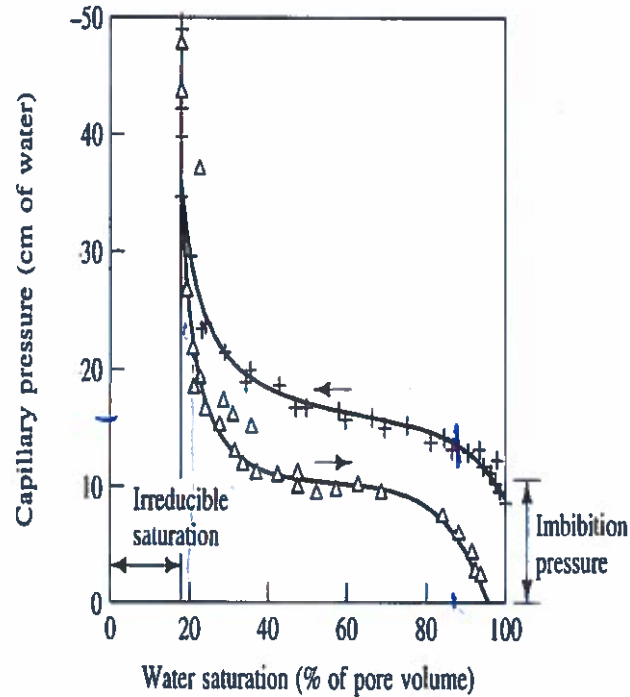

Figure 3 Capillary pressure-saturation curves for water-air (see larger version as an Appendix to this document)
- j. Consider two horizontal cylinders containing the same type of porous medium. The P_c (S_w) curves of this porous medium for both drainage and imbibition are given in Figure 3.